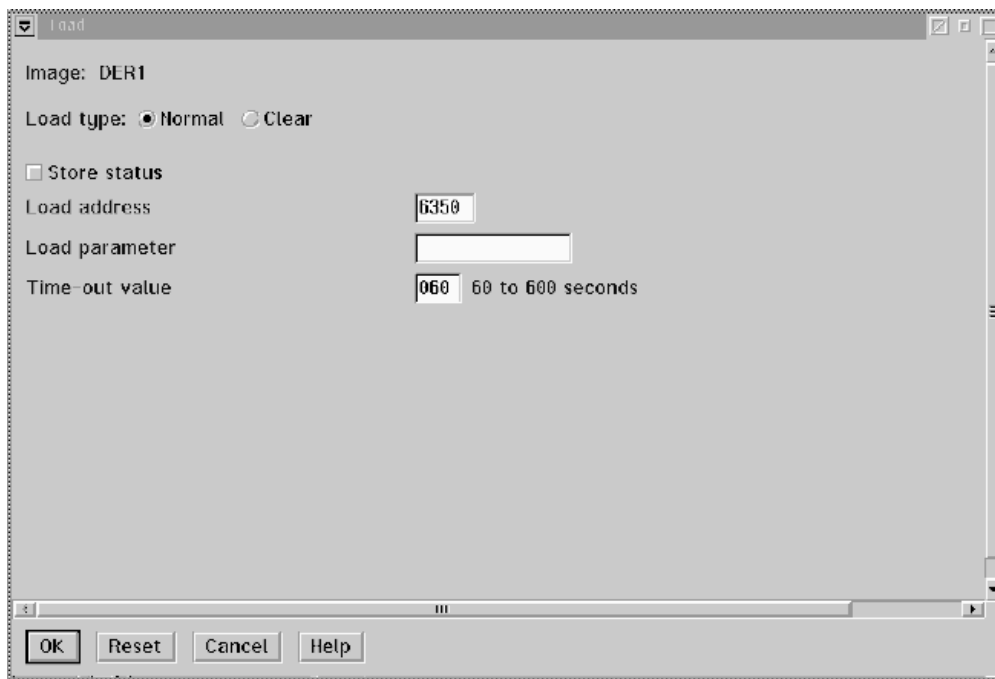

Figure 57. Load panel for booting from DASD or tape
- a. Select **Load type** “Normal” (see Figure 57).